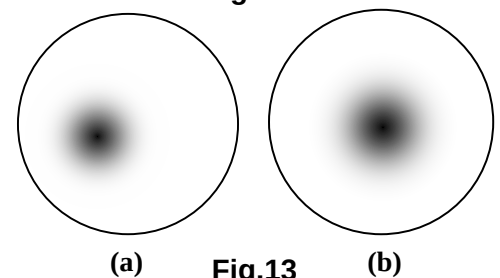

Fig.13
- Turn the condenser focus knob and slowly lower or raise the condenser till a dark spot showed in the viewing field as shown in **Fig. 13 (a)**.
- Turn the condenser translational centering screws to move the dark spot to the center as shown in **Fig. 13 (b)**.